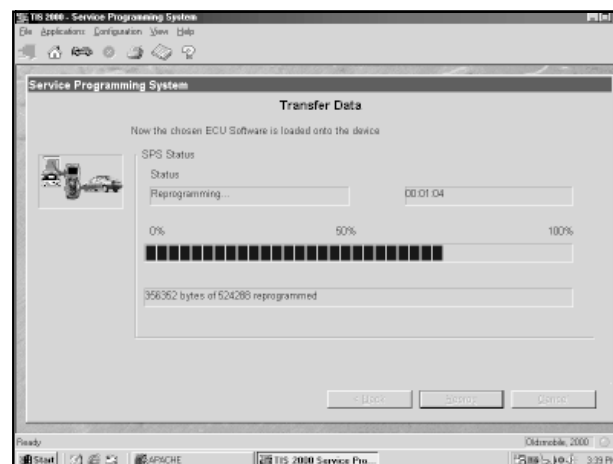

Figure I-52, Transfer Data screen
10. A Transfer Data screen will appear (Figure I-52). The PC will automatically load the calibration into the control module.